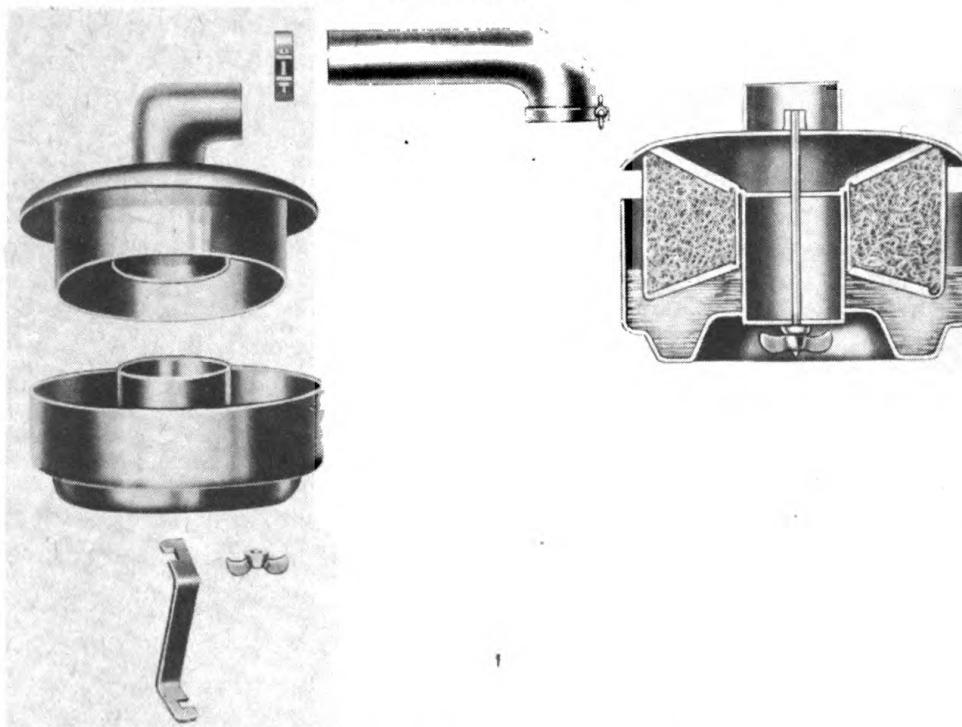

Figure 22—Carburetor Air Cleaner
- h. Service carburetor air cleaner. Clean the element of the carburetor air cleaner with a SOLVENT, dry cleaning, and compressed air and refill. (Figure 22.) See Lubrication Section XVI.